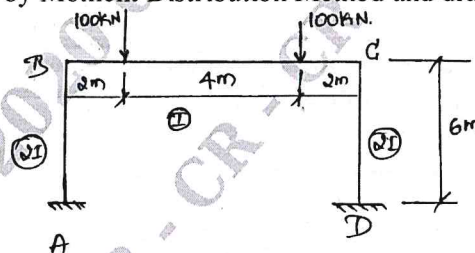

Fig.Q3(b)
- b. Analyze the Portal frame by Moment Distribution Method and draw BMD for Fig.Q3(b).